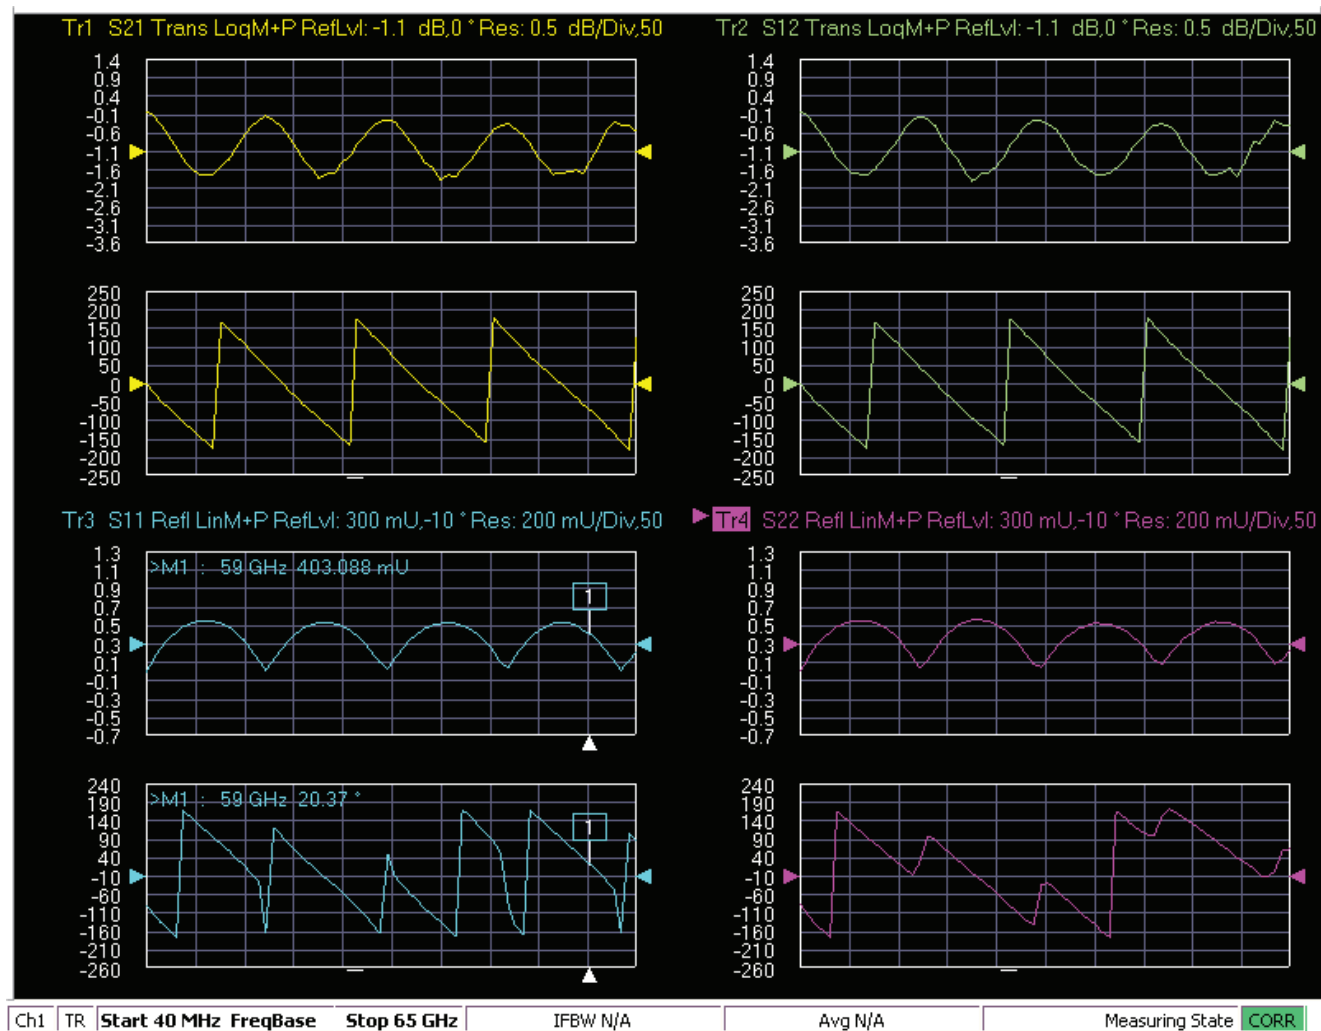

Figure 4-48. MS4640A/B Series VNA, Typical Mismatched Thru Data in Low Band
7. When the test completes, the program returns to the main menu described Section 4-9 “Application Interface – Main Menu Tab” on page 4-26 above, and the display should look similar to Figure 4-48 below. This is a typical display immediately after measuring the Mismatched Thru in the Low Band. Please note this is for reference only and that the actual data on the VNA display may not be identical.